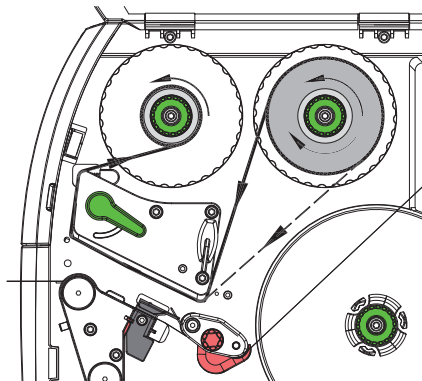

Figure 22 Transfer ribbon feed path
4. Hold transfer ribbon roll (1) firmly and turn knob on ribbon supply hub (3) counterclockwise until the transfer ribbon roll is secured.
5. Slide suitable transfer ribbon core (4) onto the transfer ribbon take-up hub (5) and secure it in the same way.
6. Guide transfer ribbon through the print unit as shown in Figure 22.
7. Secure starting end of transfer ribbon to the transfer ribbon core (4) with adhesive tape. Ensure counterclockwise rotation direction of the transfer ribbon take-up hub here.
8. Turn transfer ribbon take-up hub (5) counterclockwise to smooth out the feed path of the transfer ribbon.
9. Turn lever (6) clockwise to lock the printhead.